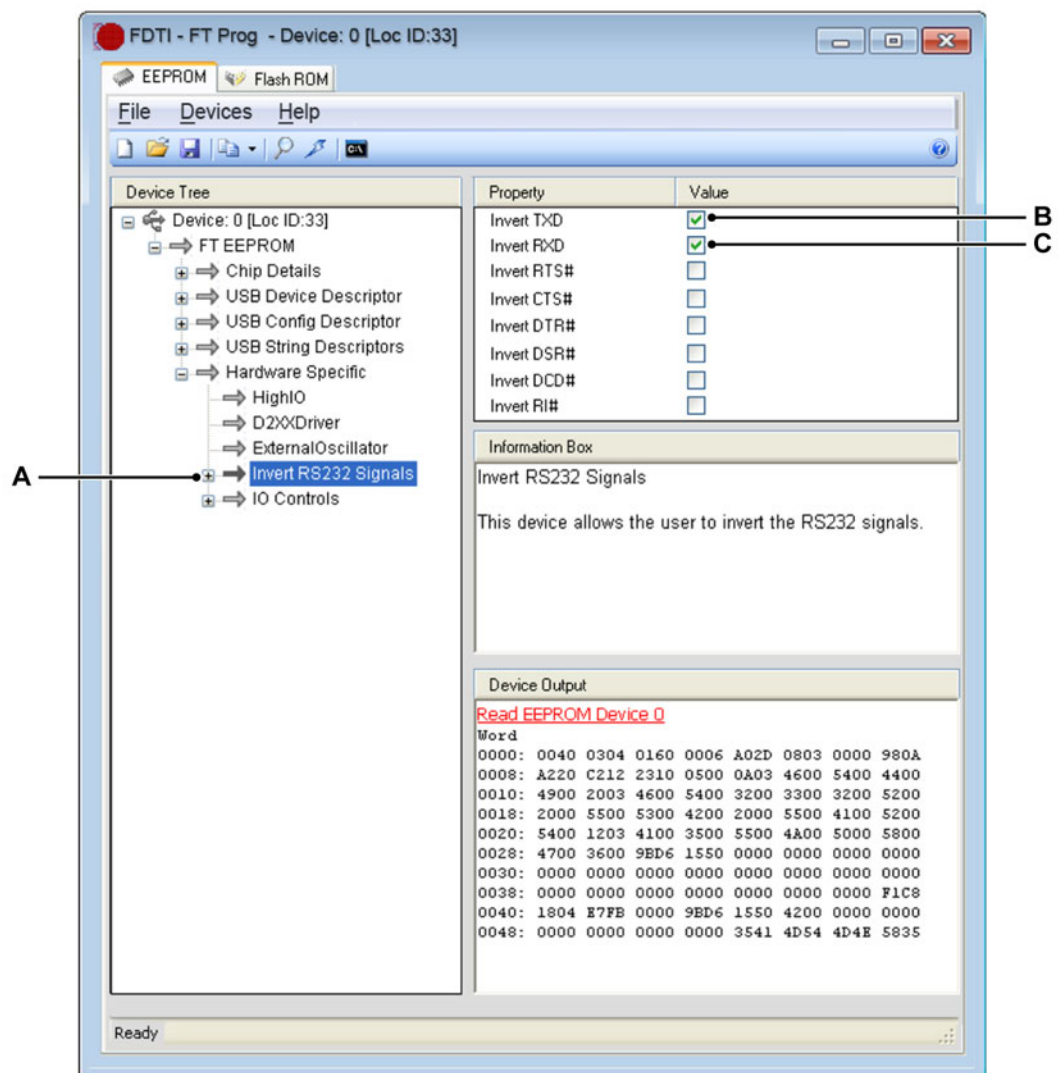

Figure K.2: FTDI - FT Prog (Part2)
- 4 In **Device Tree** on the left column expand the **Hardware Specific** node and select the **Invert RS232 Signals** (see Figure K.2).
- 5 In the **Property** column select **Invert TXD** and **Invert RXD** check boxes (see Figure K.2):